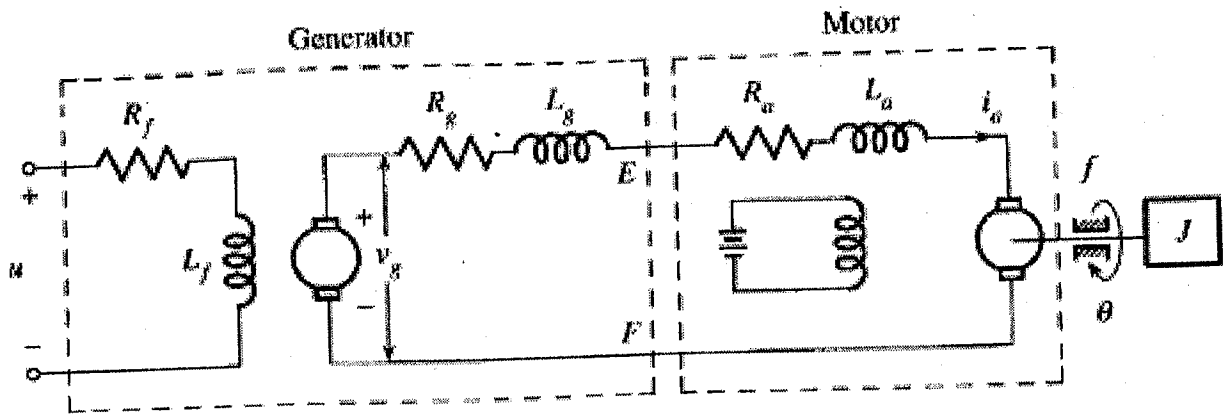

Fig Q2
2. Combination of the generator and motor shown in Fig Q2 is widely used in the industry. It is called the *Ward Leonard* system. Develop a block diagram for the system. Find the transfer functions from u to v_g and from v_g to θ .